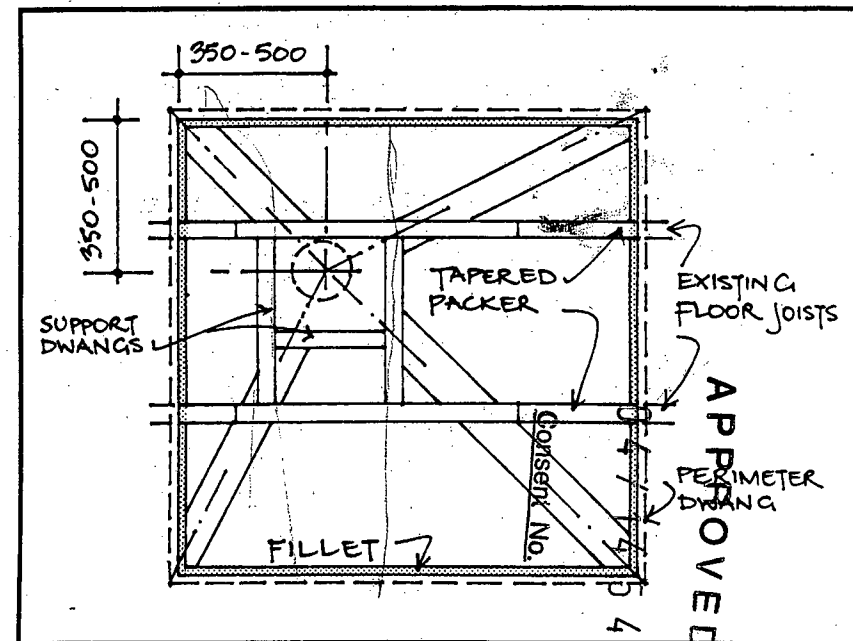

Figure 4
8. Provide extra dwangs to support the ply around the drain where necessary. Figure 4.